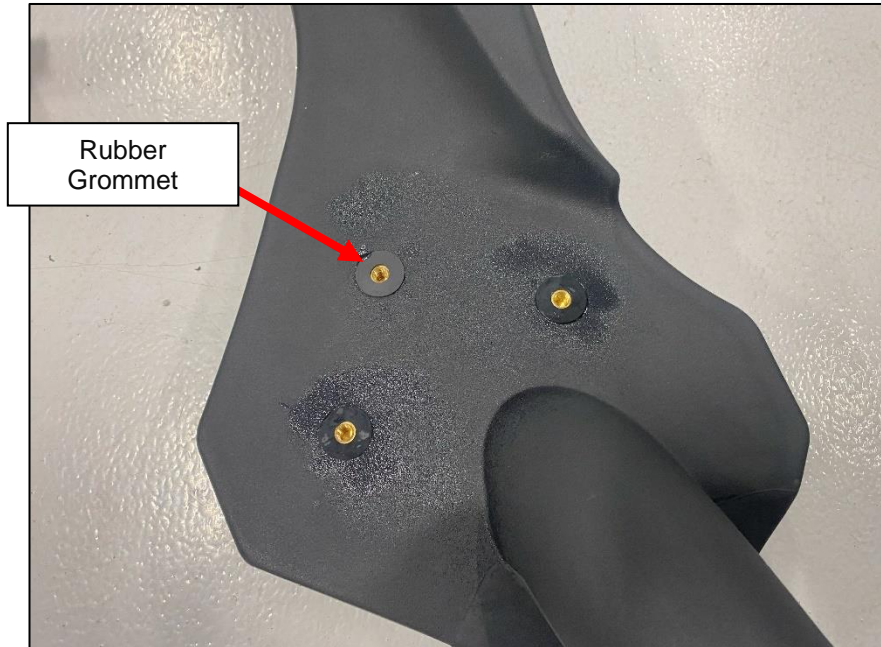

Figure 1
3. Locate the Snorkel Upright and (3) three Rubber Grommets. Using RTV Gasket Maker or Super Glue, secure the Rubber Grommets to the Snorkel Upright mounting points. Allow the RTV to cure for around (15) fifteen minutes. *Figure 1.*